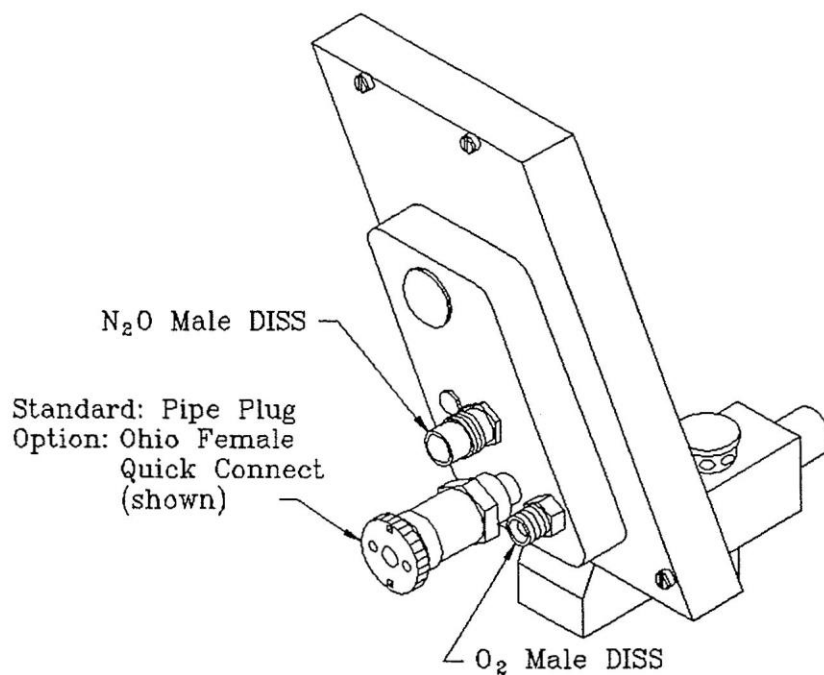

Figure 26
A. Standard RA Flowmeter Heads (see fig 26)